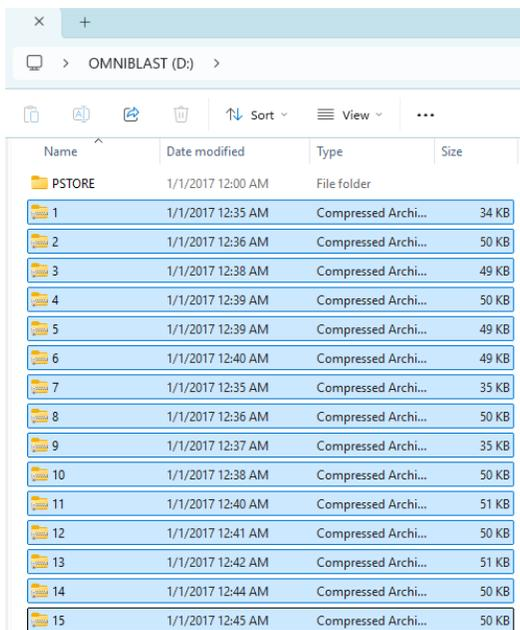

Figure 3. To analyze data, select the desired files in Windows explorer.
- To parse the files, select the .GZ files that needs to be processed in Windows Explorer, as shown in Figure 3 (15 files selected for this specific example), and drag and drop them onto the OBE window as demonstrated in Figure 4. Once you drop the files, OBE will detect the number of files and will ask for a local storage selection, as shown in Figure 8. You can select the default option of “Local”, or click the settings icon, and generate a user specific local storage option, by pressing on “+” sign, and entering user specific storage name (for example OBW DEMO).